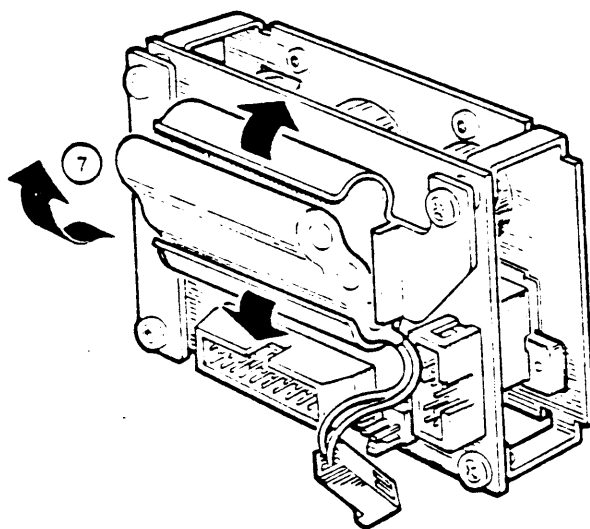

Figure 8-37 BBU Removal
6. Carefully spread the plastic BBU holder and pop the battery back up unit out (Figure 8-37).